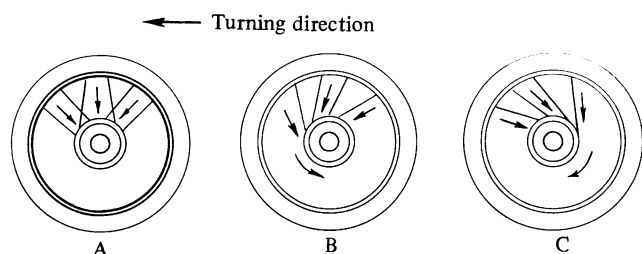

Fig. 5-4 Spoke force (Kawasaki Motor Corporation)
**Hanging From the Spokes.** Remember that your motorcycle is literally hanging from the top spokes of your wheels (Fig. 5-4). If the spokes are loose, absent, or incorrectly installed, serious consequences may follow. A series of loose spokes on one side of the tire will soon work the spokes loose on the other side of the wheel. If you discover loose spokes, tighten them immediately, according to the wheel-truing instructions on page 60.